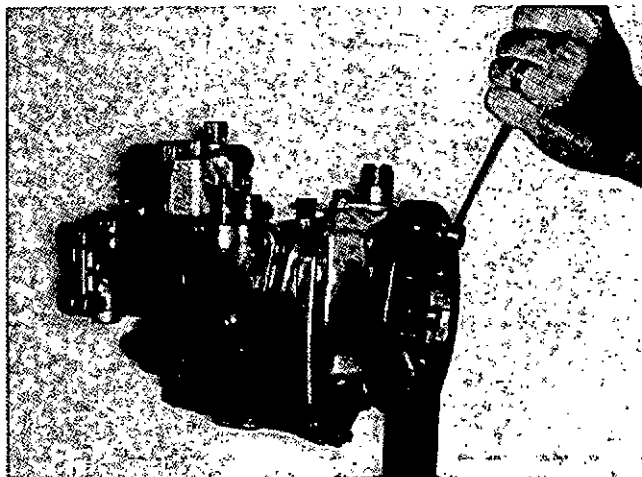

Fig. 1-1, (F5298). Mount the AFC type of fuel pump to the 3375133 Mounting Plate.
2. Mount the fuel pump on 3375133, 3375537 or ST-546 Mounting Plate and a ST-302 Swivel Vise, Fig. 1-1.